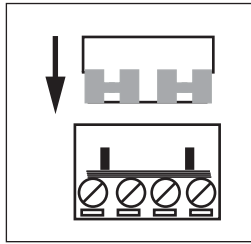

Fig 4 Continuity link
- 3. If a continuity test is to be done, it should be carried out before securing the call point to the backbox (step 4). Insert the continuity links supplied with the backbox (Fig 4) into the terminal blocks before testing. After testing for continuity remove the connectors and store for re-use.